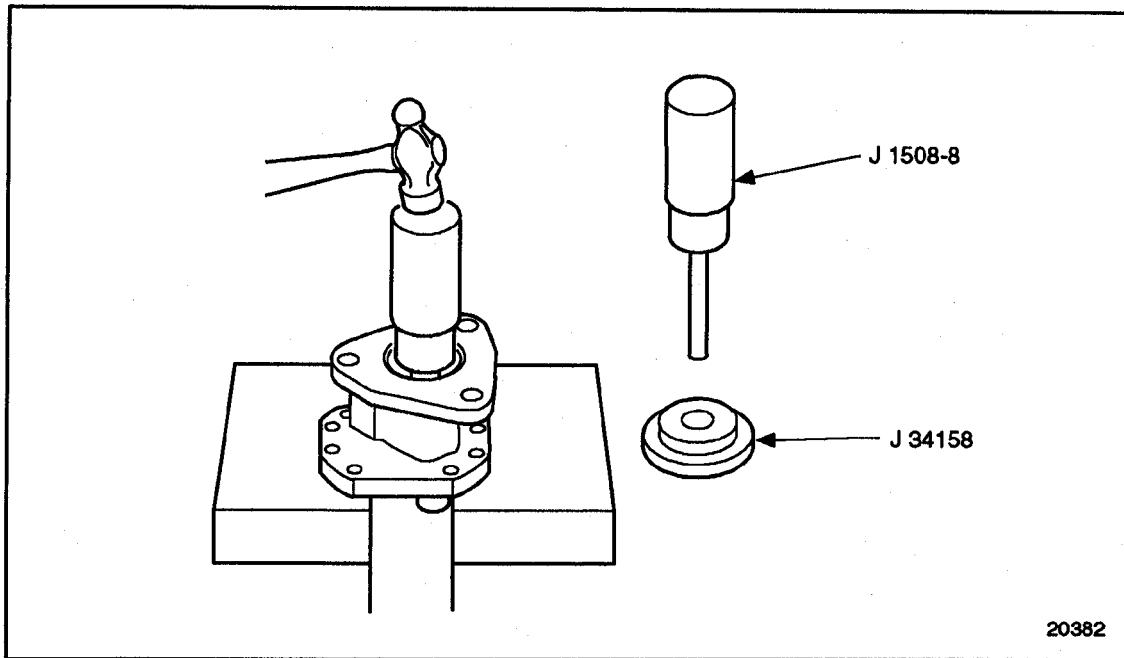

Figure 2-51 **Installing Outer Oil Seal**
5. Remove the installer J 1508-8 and pilot J 34158 and place the narrow end against the installer handle. See Figure 2-51.